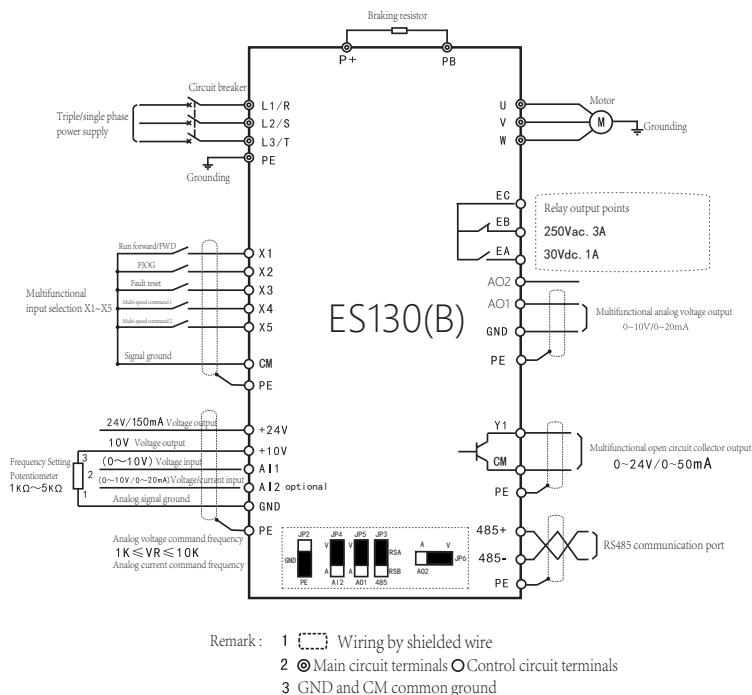

Figure3-9 Standard wiring of main circuit and control circuit
The standard wiring diagram of ES130(B) series inverter main circuit and control circuit showing as below Figure3-9